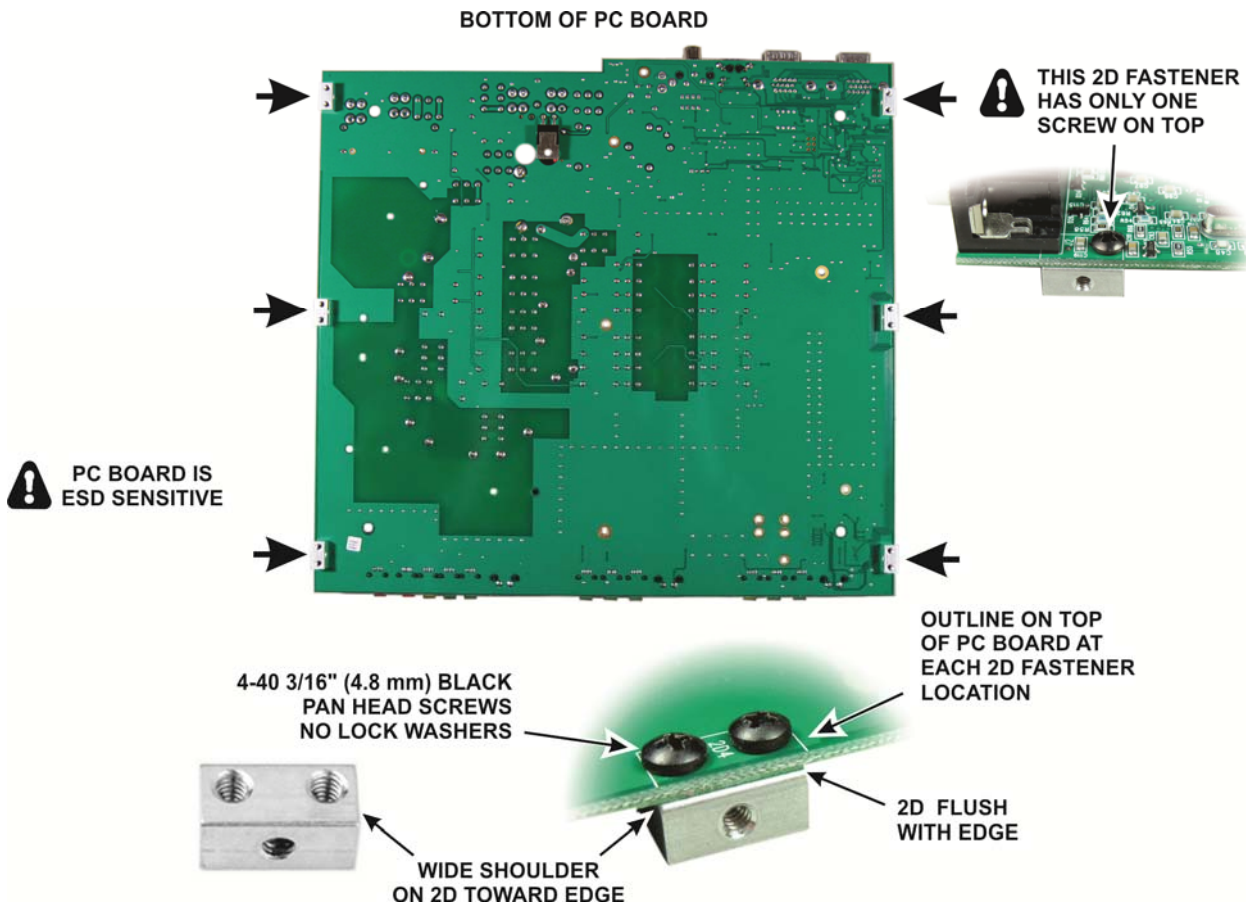

Figure 7. Installing the 2D Fasteners.
- Taking ESD precautions remove the printed circuit board from its ESD-safe envelope and install six 2-D fasteners as shown in Figure 7. Be careful not to disturb any of the inductors on the top side, especially the air wound coils, or the position of the resistor mounted on the bottom.
- The 11 screws along the sides of the pc board (Figure 7, page 22).